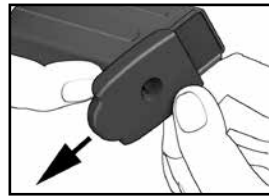

Figure 19
3. Slowly slide the floorplate forward off of the magazine housing (see Figure 19).